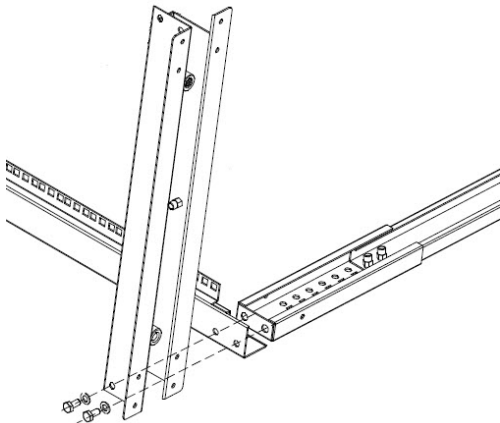

Figure 4
4. Insert two **M8 Bolts** through two **M8 Washers** and into the holes in the **Base Bracket, Vertical Rails**, and the **Center Section Assembly**. Repeat for the other side of the **Base Bracket**. (Figure 4)